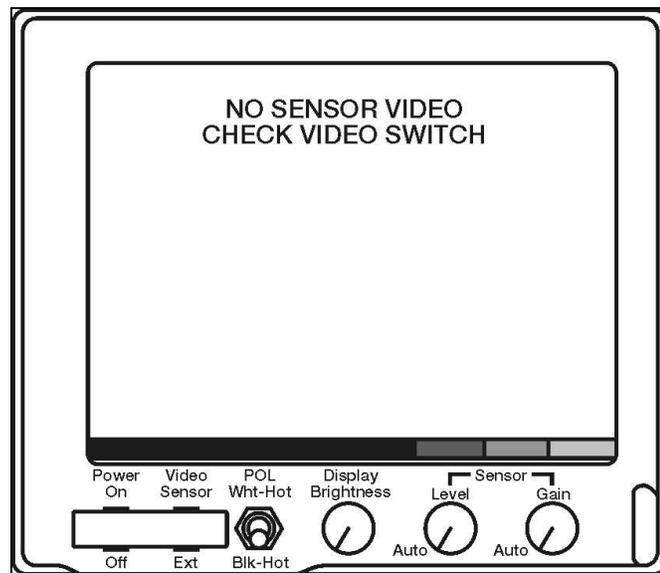

Figure 3-80. Driver Screen Display
3. Operate the driver's vision enhancer (see Figure 3-80).